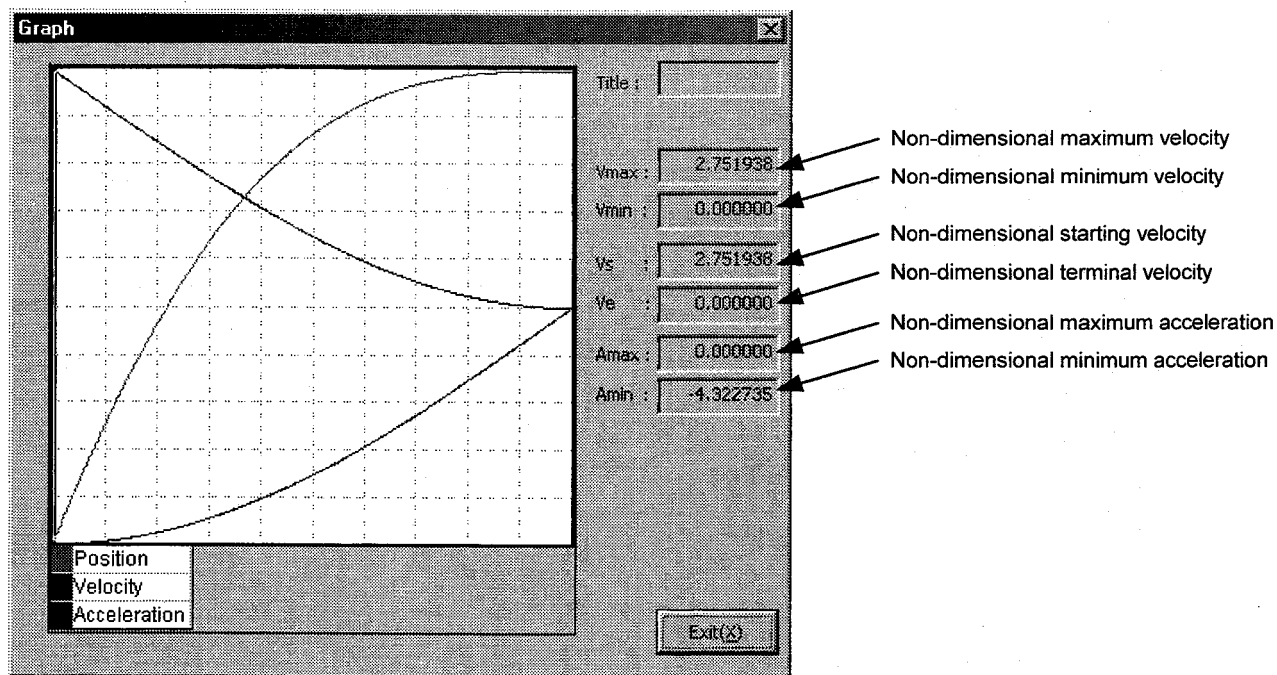

Figure 7.55 "Universal cam profile" graph
- 4) Click "Graph (G)" in the "Universal cam profile" dialog box to display the graph of a universal cam profile (see figure 7.55).